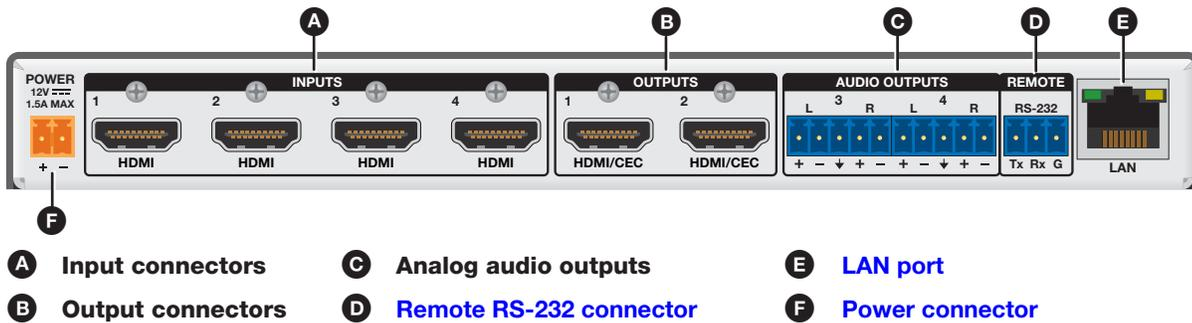

Figure 2. DXP 42 HD 4K PLUS Rear Panel
2. Connect HDMI input devices to the rear panel input connectors (see figure 2, A, on the next page).
- Connect a computer, control system, or network switch to the RJ-45 LAN (Ethernet) port (see figure 2, E).